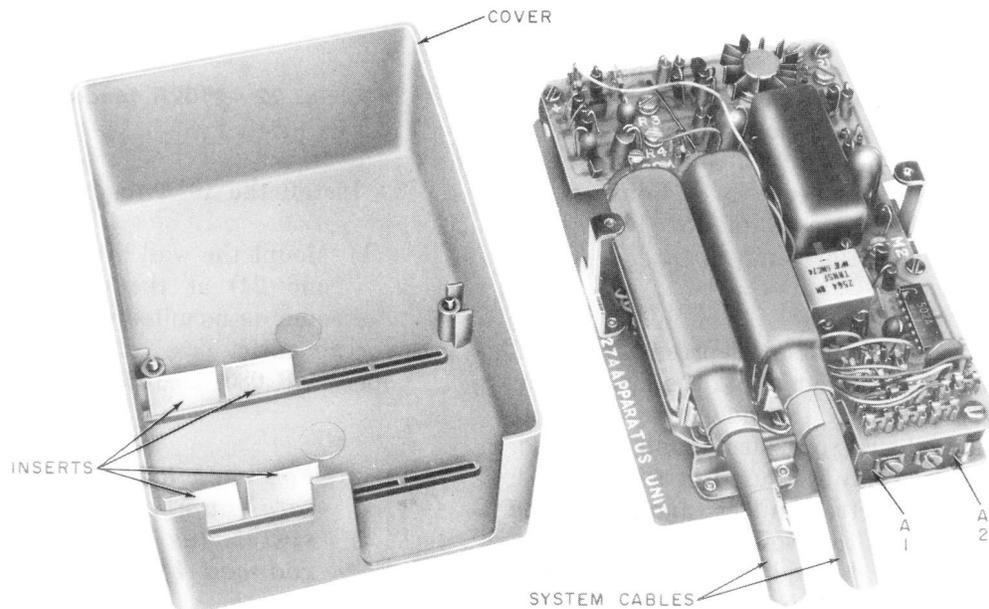
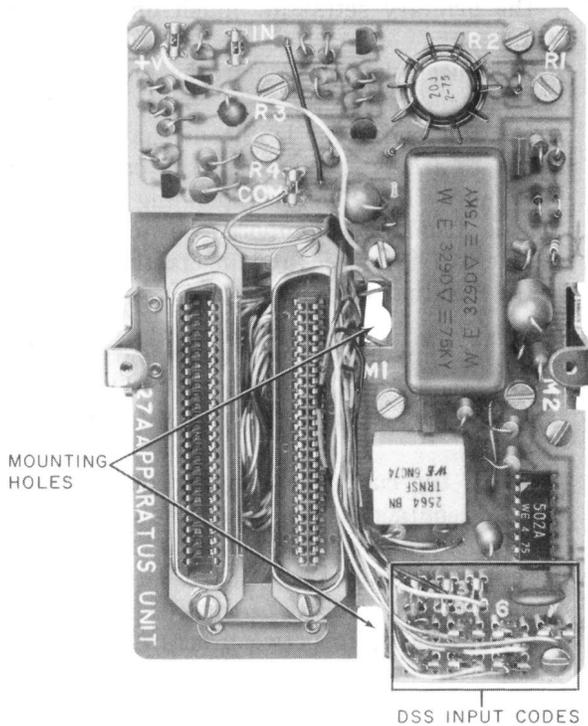

Fig. 20—▶27A Apparatus Unit With L-769856 Cover◀
Fig. 21—27A Apparatus Unit
- (1) Remove the cover and mount the base pan assembly (Fig. 20 and 21) in the desired location (use appropriate fasteners per BSP 080-720-103).
- (2) If background music is to be provided, install the 33A voice coupler per 3.14(b).
- (2) If music is provided, connect screw terminals 5 and 6 of the 33A voice coupler to screw terminals M1 and M2 (Fig. 21).
- (3) If the customer's paging system requires a contact closure when the paging occurs, connect the coil circuit of a KS-16626 L12 relay set per BSP 463-120-100 to screw terminals R1 and R2 of the 27A. Also connect a shorting strap between screw terminals R3 and R4.
- (4) Insert system cable or cables (Fig. 20).
- (5) Position inserts (Fig. 20) inside cover to hold cables securely when cover is replaced.